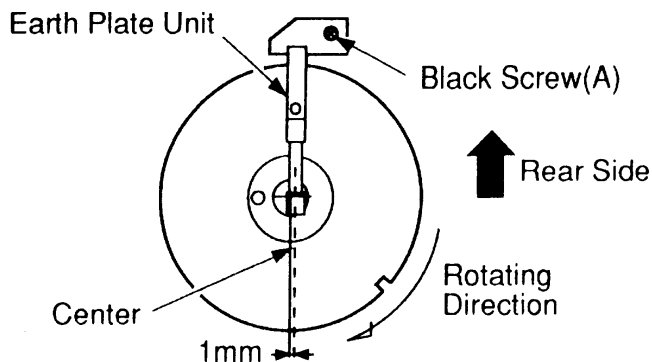

Fig. 1 - Grounding Plate Alignment
Grounding Plate Alignment (Fig. 1)
2. The grounding plate must be located so that the center line of the plate is less than 1.0mm measured from the center of the grounding plate to the center of the cylinder shaft. If required, adjust the plate position by loosening the black screw (A) shown in Fig. 1.